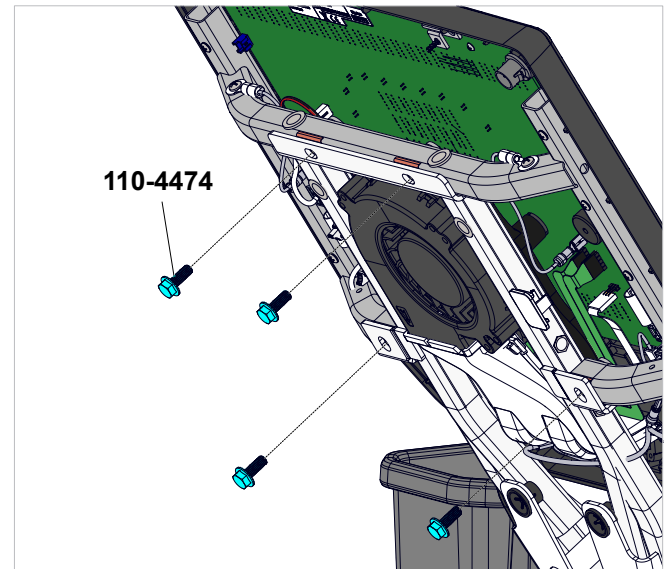

Fig. 5
5. Secure console to frame weldment with four screws 110-4474. (See Fig. 5)